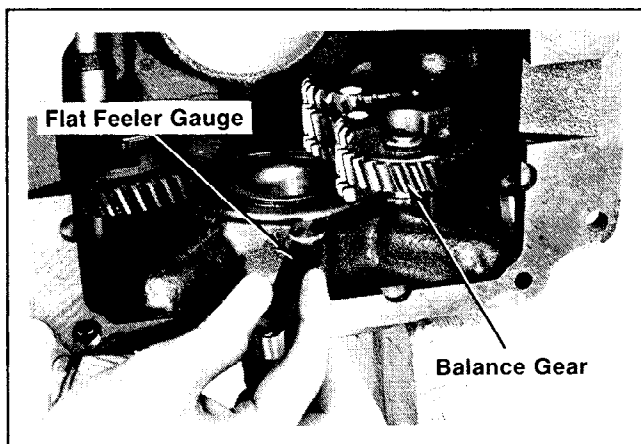

Figure 12-10. Measuring Balance Gear End Play.
2. Check end play with a flat feeler gauge. Refer to Figure 12-10. Recommended end play is **.002" / .010"**. If end play is not within range, install or remove .005" and .010" spacers*, as necessary.